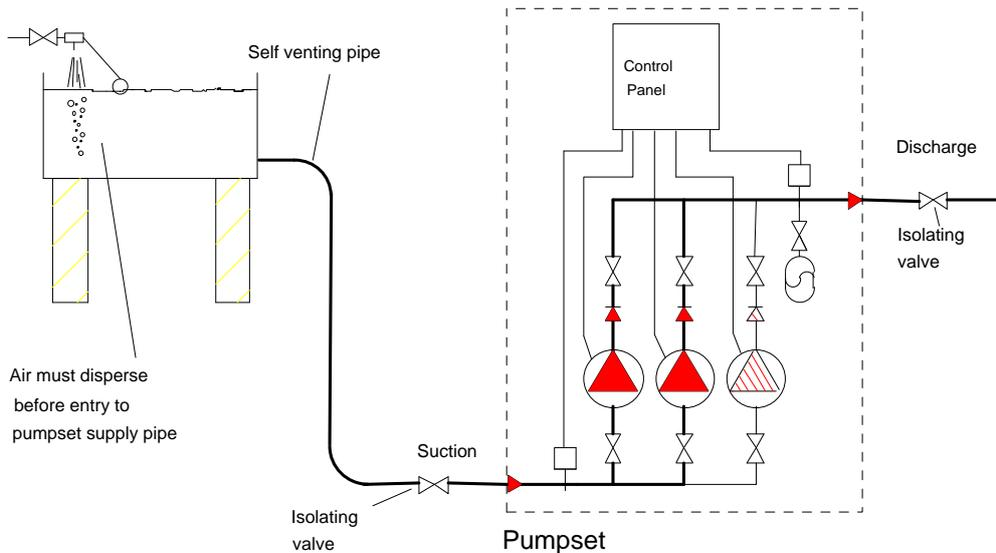

Fig. 1.1 Typical Pipework arrangement
- 1.3.4.2 Arrange the suction pipework to be self venting** between the mains water breaktank and the pumpset suction manifold (see fig.1.1).
- 1.3.4.3 Fit isolating valves to the suction side and discharge side of the pumpset** (see fig.1.1), to enable the pumpset to be isolated from the system for maintenance purposes.